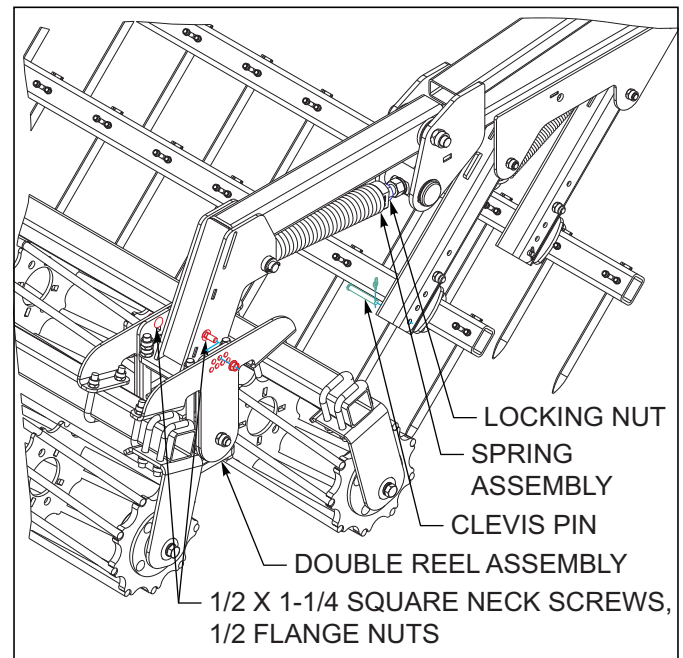

Figure 4-30: Spike Tooth Angle & Reel Adjustment
3. To change the spike tooth angle See Figure 4-30., raise the finisholl so the harrow is off the ground. Remove the clevis pin at the lower end of each spike bar arm. Moving the pin to a higher adjustment hole will make the spike teeth stand more vertical and be more aggressive. Moving the clevis pin lower will allow the spike tooth to lay flatter and not as aggressive. Set the clevis pin adjustment the same for each end of the spike bar. Front spike bars may be set different than rear bars if desired.
6. Use the rear spring assembly to adjust the height of the of the double reel assembly See Figure 4-30.. Initially set the reels to run approximately even with the bottom of the finisholl sweeps. To adjust the reel height, loosen the locking nut against the front of the spring assembly and the locking nut against the 2-1/2 dia adjustment pin. Rotate the head of the adjustment bolt to raise or lower the reel assembly. Retighten the locknuts against the spring end and the spring pin. Make sure the reel heights are set so the reels are even across the back of the finisholl.
7. The double reel assembly may also be adjusted for front-to-rear pitch See Figure 4-30.. The reels should run approximately level front-to-rear while working in the field. If ground conditions are very loose, or the reels try to push dirt, it may be necessary to run the front reel slightly higher than the rear reel. To change the reel pitch, lower the reels so they are just above the ground to prevent uncontrolled falling. Remove the two round head square neck $\frac{1}{2}$ x 1-1/4 screw and flange head nuts from each arm assembly. Rotate the double reel assembly to the desired pitch, and reinstall the screws. Adjust the reel pitch the same for all harrow sections.